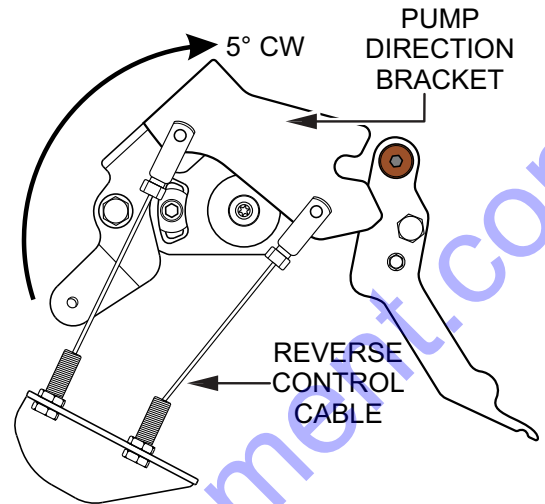

Figure 51. Pump Direction Bracket (CW 5°)
8. Repeat the same procedure for the **reverse control lever** using 5° rotation for the pump direction bracket (Figure 51).